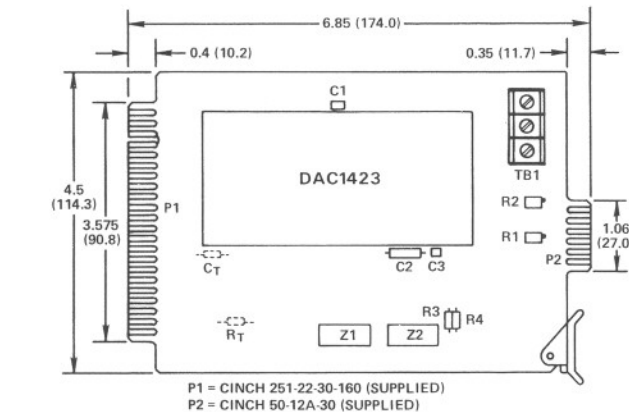

Figure 13. AC1582 Mounting Card. Dimensions shown in inches and (mm).
The AC1582 mounting card is available to assist in evaluating the DAC1423. As shown in Figure 13, the AC1582 is an edge connector card with pin receptacles for plugging in the DAC1423. This card includes offset and span adjustment potentiometers, power supply bypass capacitors and the logic needed for increment/decrement control. Increment/decrement control is enabled via connection to J2. In addition, the card allows for several user selectable configurations:
These configurations can be programmed by user-installed jumpers, as shown in the wiring chart of Table 3. Jumper locations are not shown in Figure 13, but are labeled on the mounting card.
- ¹ Jumper locations are not shown in Figure 13, but are labeled on AC1582.